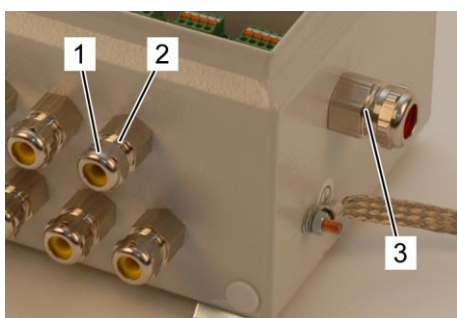

Fig.67: Types of cable glands
4. Loosen the pressure screw of the cable glands (Fig.67/1).
5. Guide the cables from the sensors through the smaller cable glands (Fig.67/2) into the Terminal box.
6. Guide the bus cables (LT2004F0) through the bigger cable glands on the side (Fig.67/3) into the Terminal box.